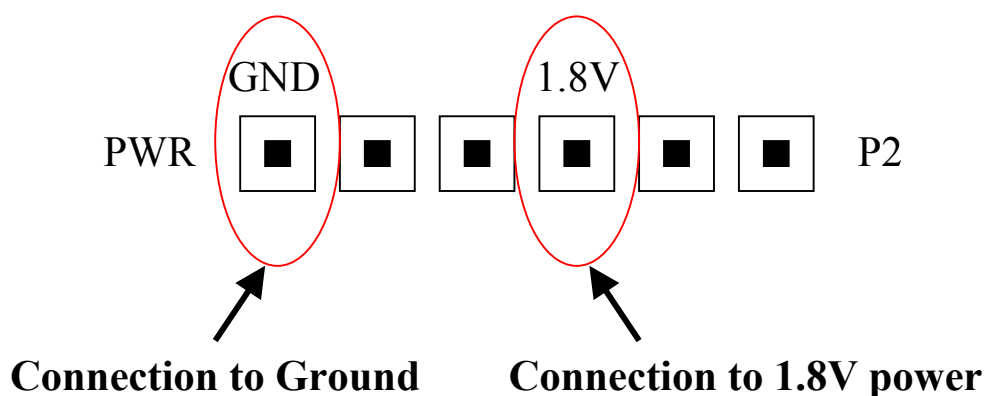

Figure 1
- 5) Apply power (+1.8V) and ground to EQ50EVK PWR section (P2). See Figure 1 for detail.
The CML input and output of the EQ50F100 is access through SMA connector (J2 – J5). Power and ground are supplied through 2mm Header-pin connector P2. See Figure 1 for detail.